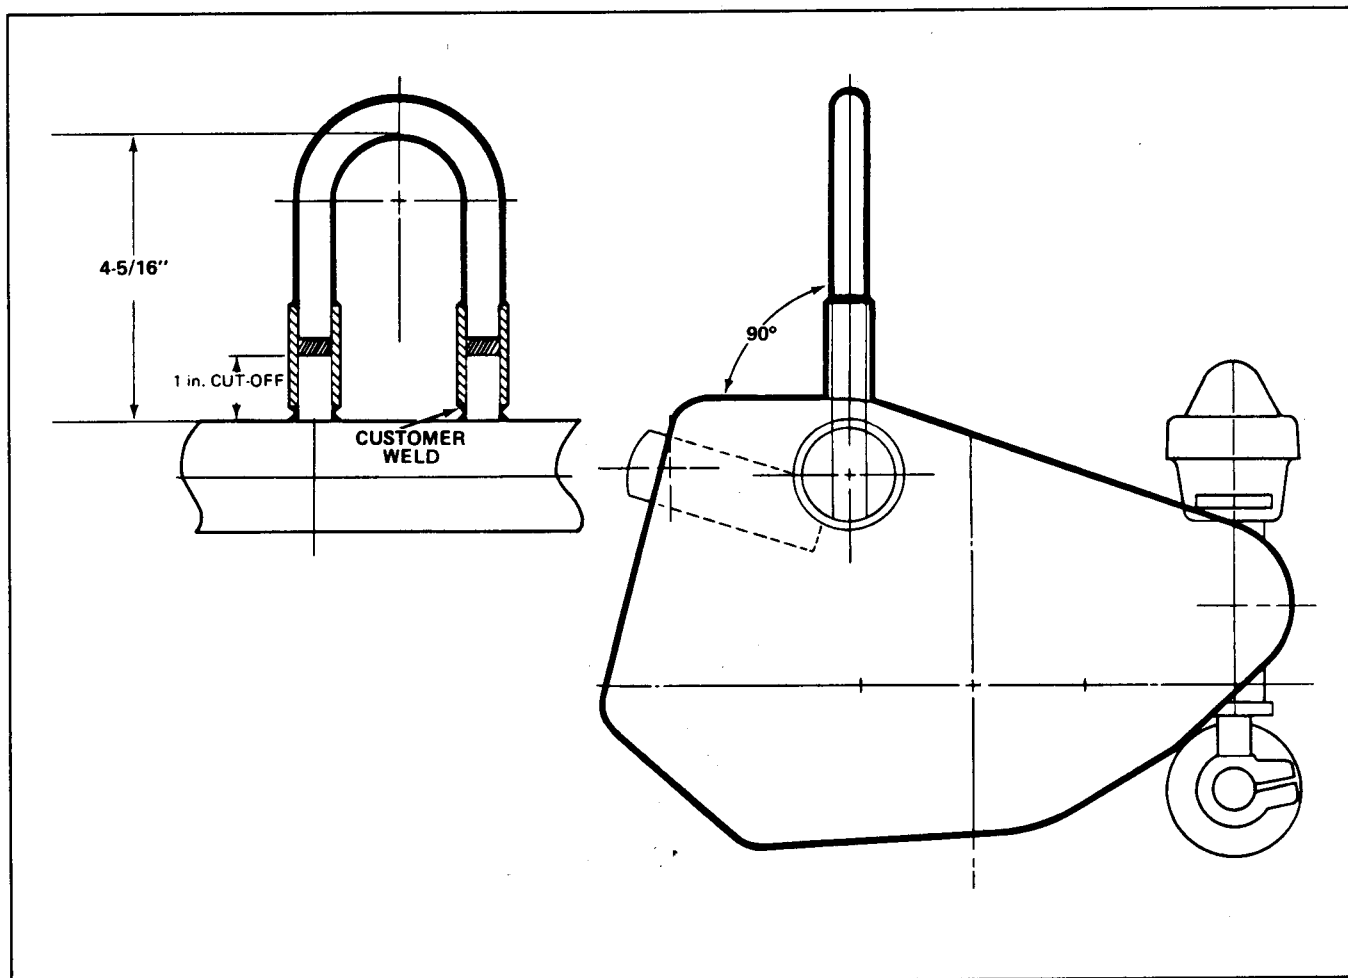

Figure 53
1. Use a saw to cut the lift bail off of the cutting unit. Make the cut 1 inch from the horizontal frame tube (Fig. 53).